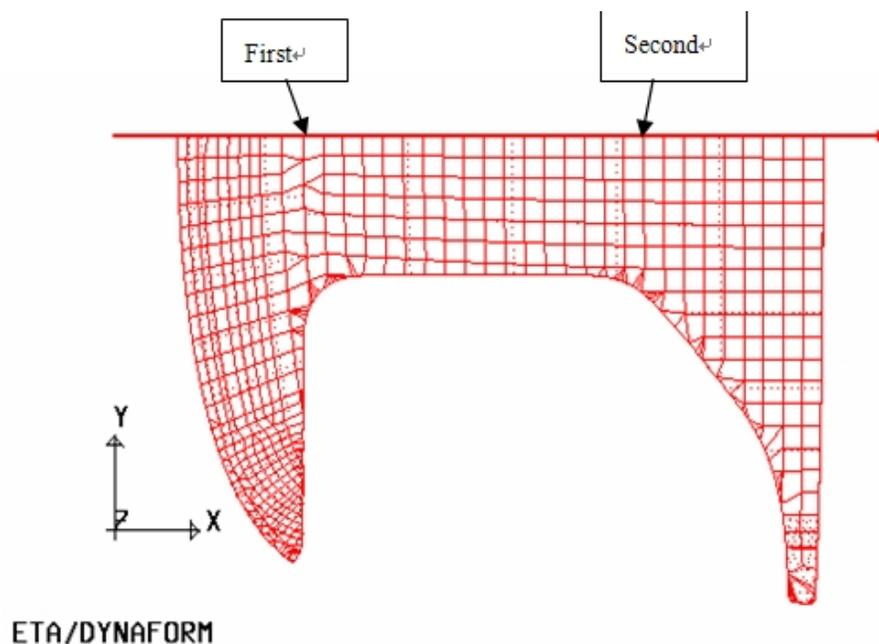
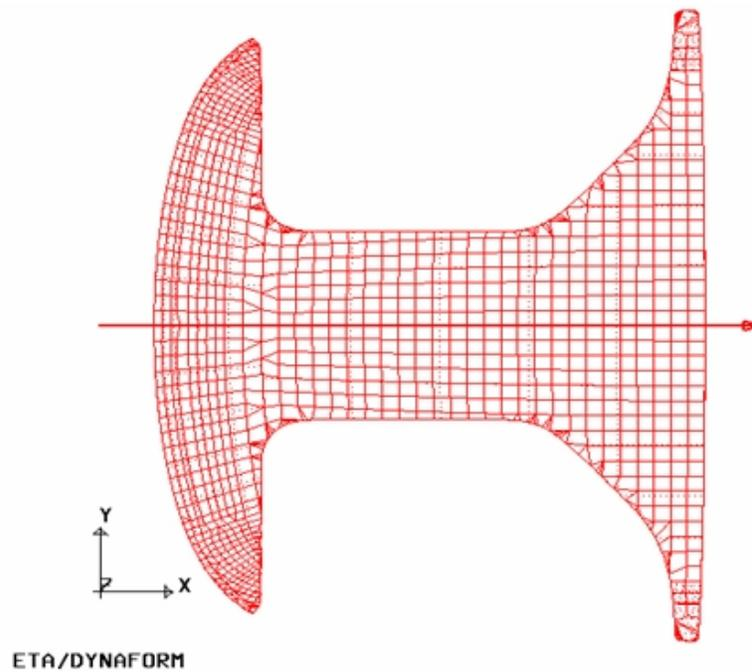

Figure 6.1.44 Half Symmetry Part With X-Z Plane
Figure 6.1.45 The Mirroring Result
5. Click on the MIRROR GEOMETRY SYMMETRY button, following by selecting the part as illustrated in Figure 6.1.44. The mirror result is illustrated in Figure 6.1.45.